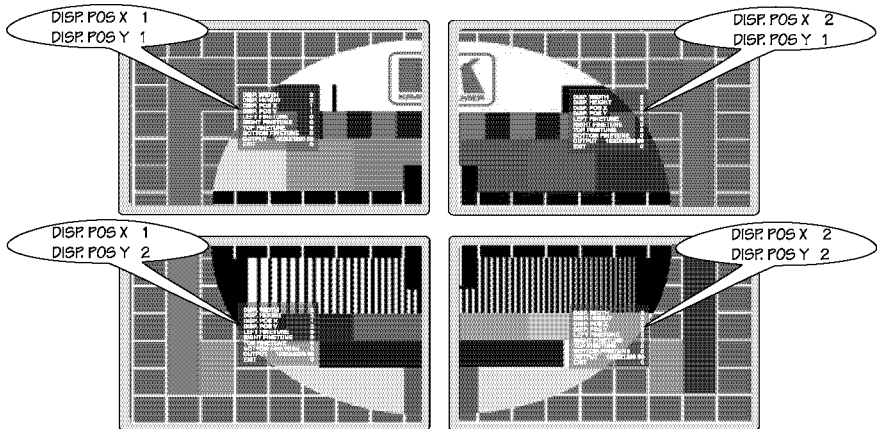

Figure 4: Setting the Position of Each Display
7. Set the position of each display² on the TV wall via the DISP. POS X and the DISP. POS Y sub-menus for each screen, as defined in Figure 4.